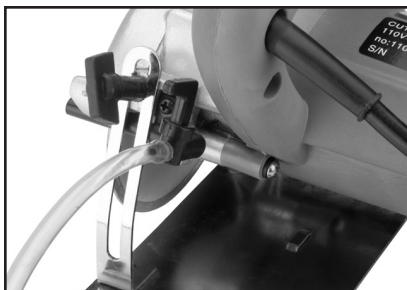

Figure 4. Attach the vinyl hose.
3. Attach the vinyl hose to the water valve (**Figure 4**).